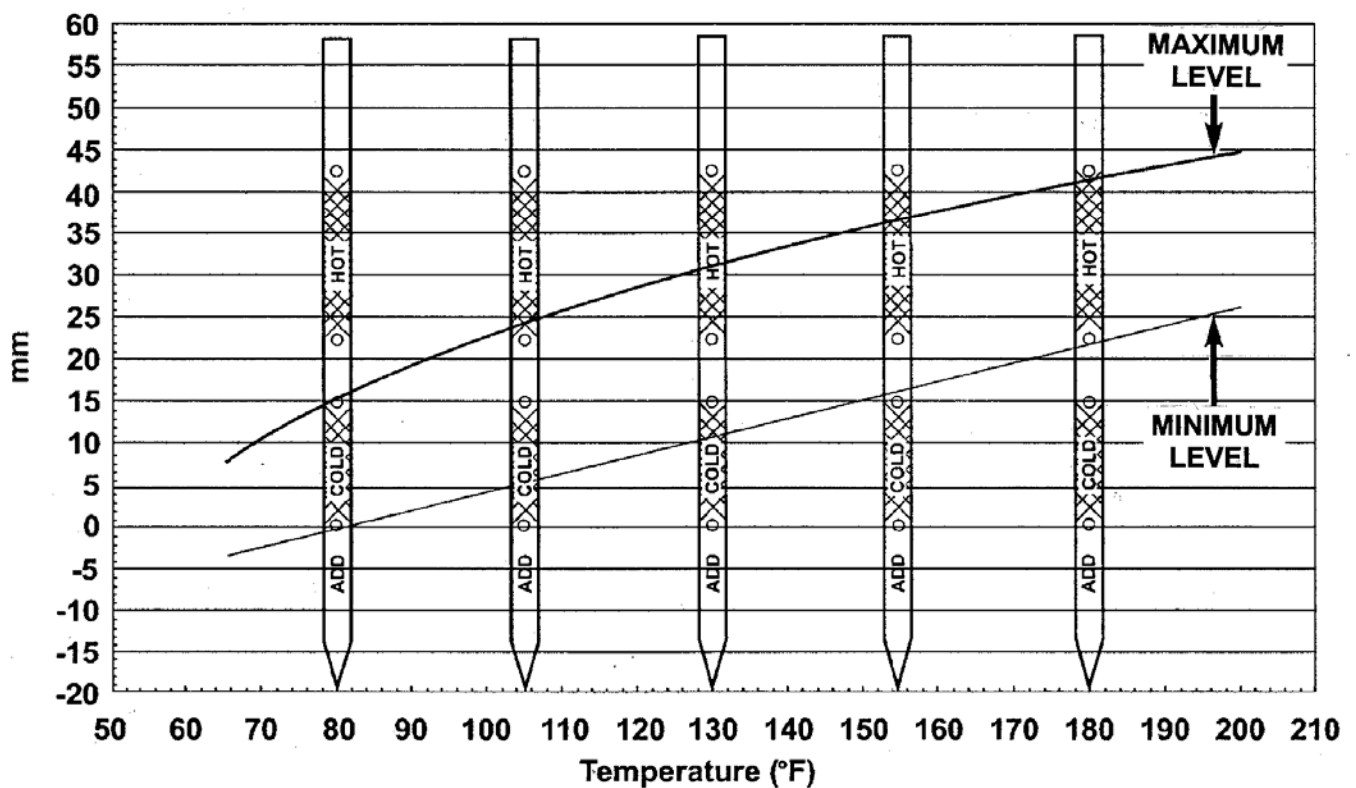

Figure 4
38. Place the transaxle selector lever in the "P" Park position. With the vehicle on level ground, start the engine and allow the engine to run at idle speed for at least one minute. At normal operating temperature 180°F (82°C), the fluid level is correct if it is in the "HOT" region on the transaxle dipstick. The fluid level should be within the "COLD" region of the dipstick at 80°F (27°C) fluid temperature. Add additional ATF+4 transmission fluid as required and recheck level (Figure 4).